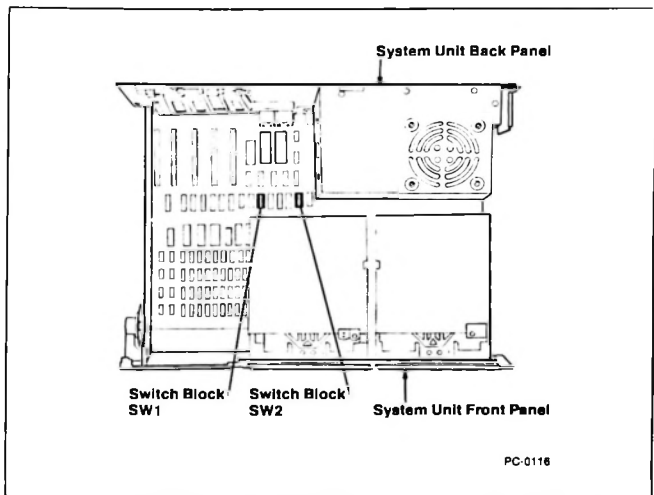

Figure 7-3 Location of switch block SW2 in an IBM PC
- 4 Find your PC's system board. It's the large board at the bottom of the computer unit. Now, find the switch block labeled SW2. Figure 7-3 shows its location.